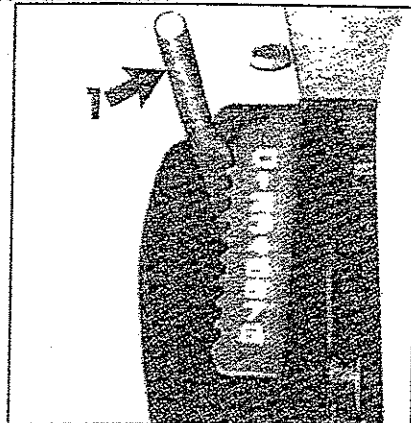

Fig.36
1. **Base shutter (Fig.36):** These can not be used to adjust output.